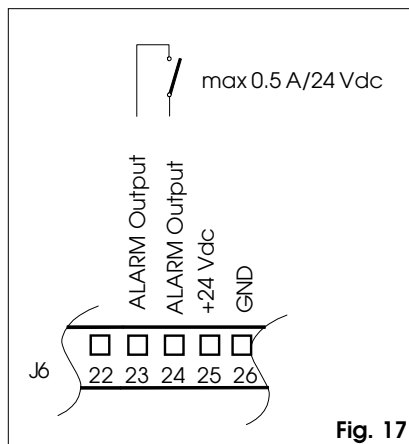

Fig. 17
⑦ J6 terminal board Relay outputs and special functions (figs. 17, 18, 19)